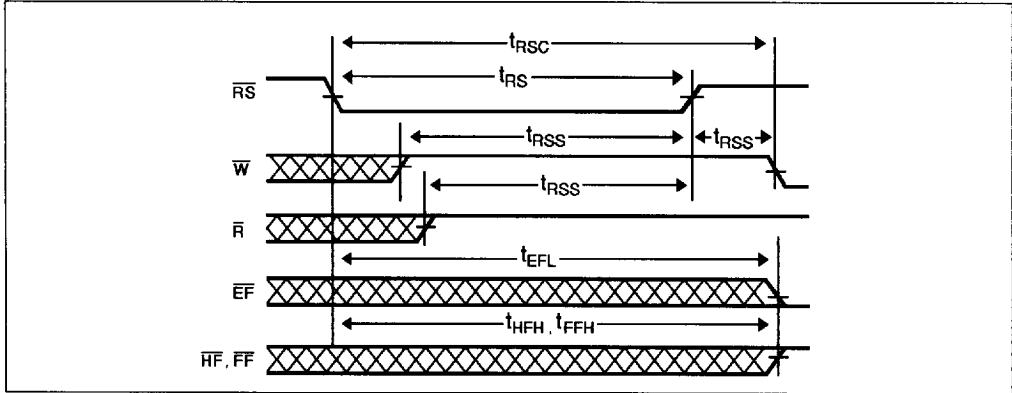

Figure 1 : Reset.
power-up before a write operation can be enabled. Both the Read Enable ( $\overline{R}$ ) and Write Enable ( $\overline{W}$ ) inputs must be in the high state during the period shown in figure 1 (i.e.  $t_{RSS}$  before the rising edge of  $\overline{RS}$ ) and should not change until  $t_{RSR}$  after the rising edge of  $\overline{RS}$ . The Half-Full flag (HF) will be reset to high after Reset ( $\overline{RS}$ ).